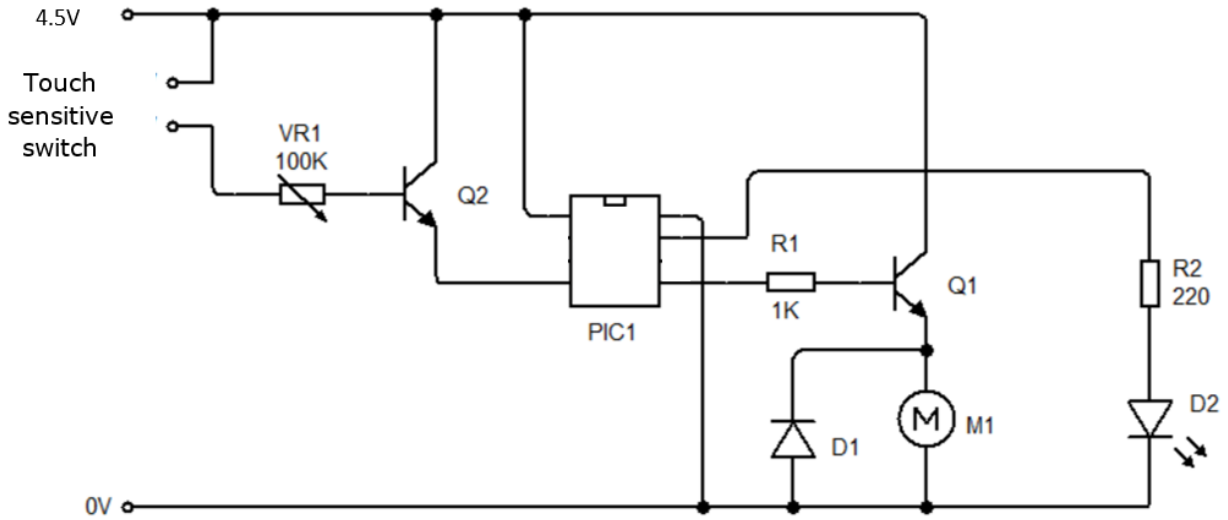
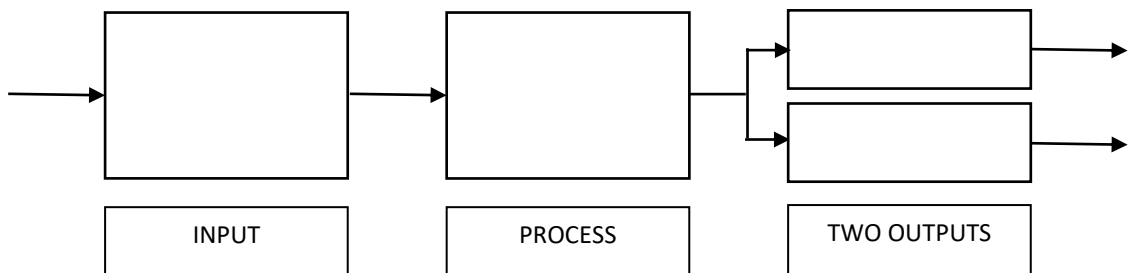

Figure 13
Figure 14
In order to achieve this function, a microcontroller circuit was developed, as in Figure 13.
a. Name the component Q2. \_\_\_\_\_ (1)
b. On Figure 14 fill in the block diagram, according to the circuit shown in Figure 13.